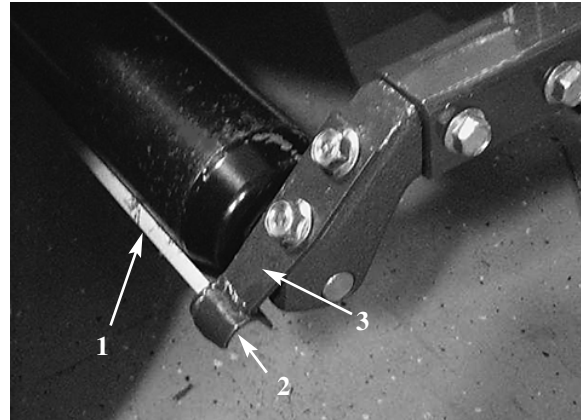

Figure 4
Adjust The Roller Scraper (Fig. 4)
- Loosen the locknut securing one end of the roller scraper rod to the mounting bracket (Fig. 4). There should be approximately 0.13–0.51mm end play in the loosened rod.